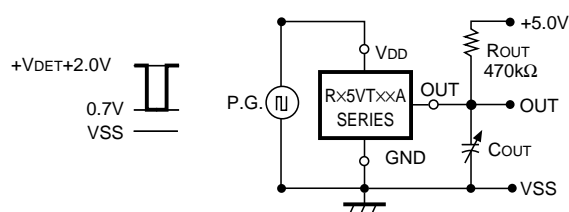

FIG. 7 Output Delay Time Test Circuit (1)
In Output Delay Time Test Circuits (1) and (2) in FIG. 7 and FIG. 8, their respective Output Voltage Fall Times ( $t_{PHL}$ ) and Rise Times ( $t_{PLH}$ ) are defined as shown below.